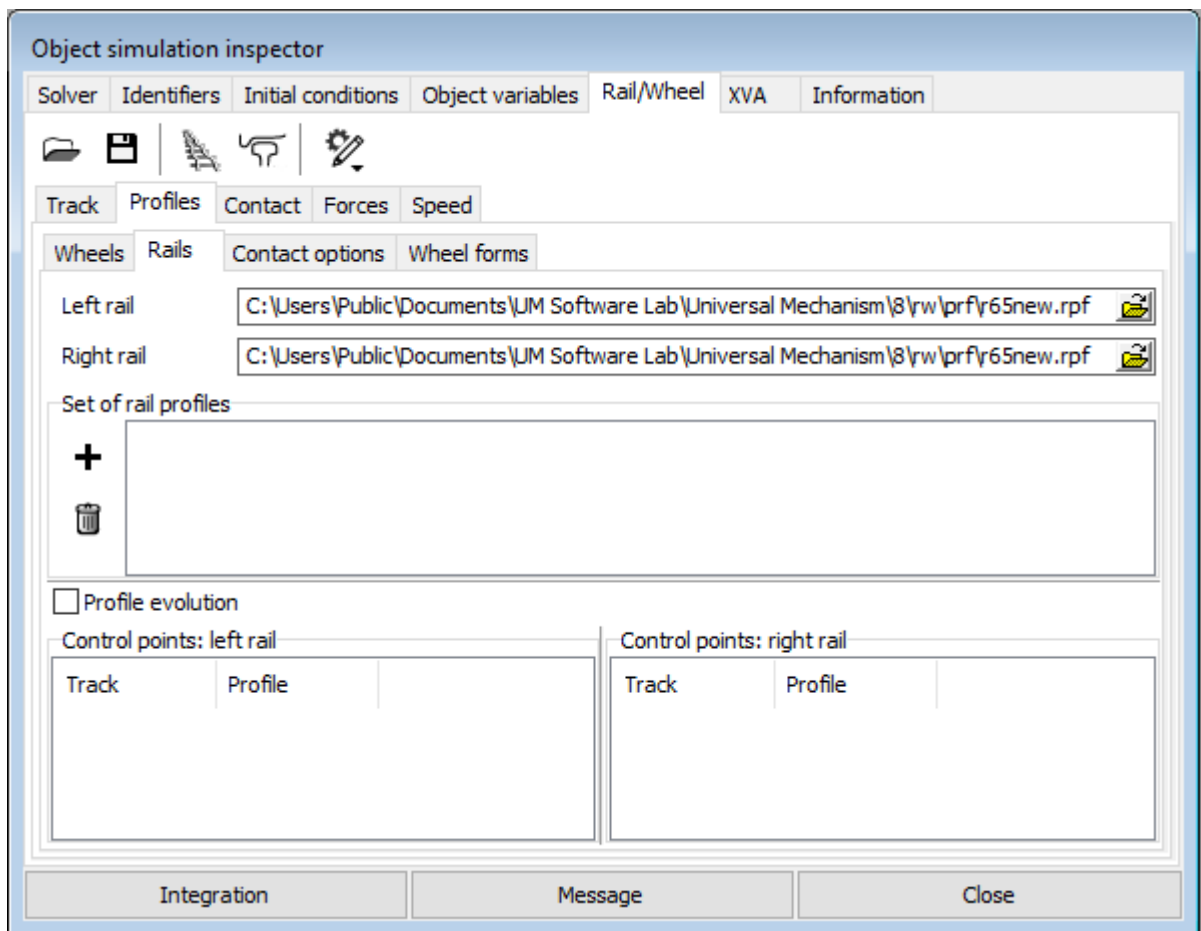

Figure 1.2. Rail and wheel profiles
3. Point to the **Profiles** and then **Rails** tabs, see Figure 1.2.